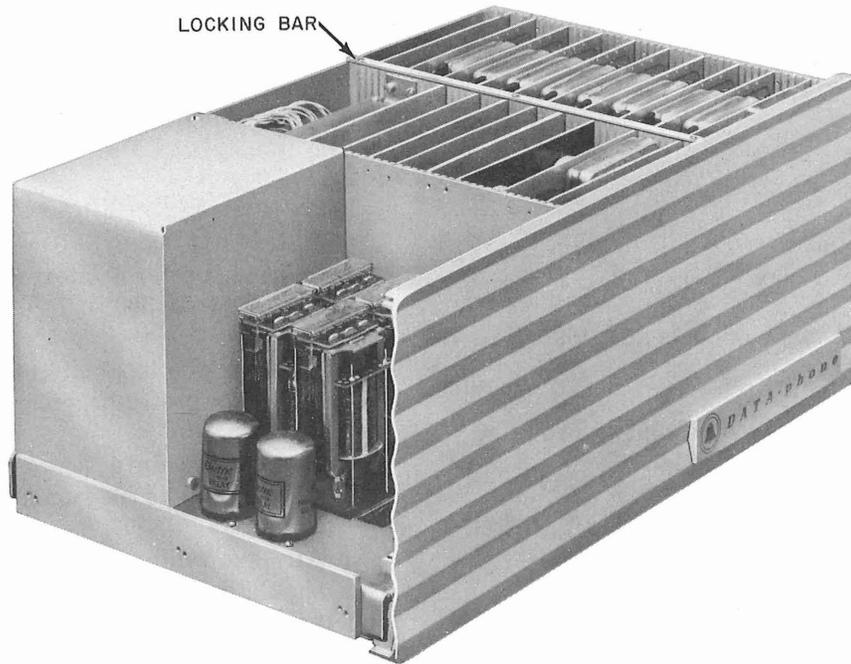
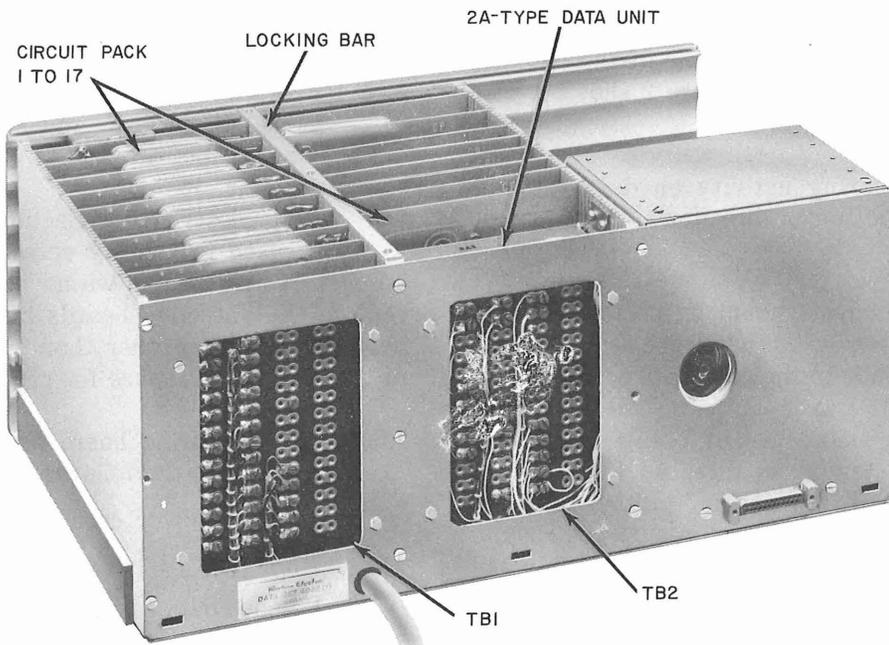

Fig. 1—Data Set 402D-Type, Front View, Cover Removed
Fig. 2—Data Set 402D-Type, Rear View, Cover Removed
- 2.02 Figure 1 shows a front view of the data set with cover removed. Figure 2 shows a rear view.
- (3) Remove three retaining screws which hold locking bar in position (Fig. 1 and 2), and remove locking bar.
- (4) Grasp printed board bracket at top of board and carefully extract by pulling straight up.
- (5) Place new assembly into positioning grooves and lower assembly until it seats in the connector socket.